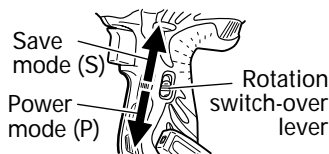

Fig. 13
- As shown in Fig.13, when the rotation switch-over lever is slid to the lower side, the power mode (P) is set. And when slid to upper side, the save mode (S) is set.